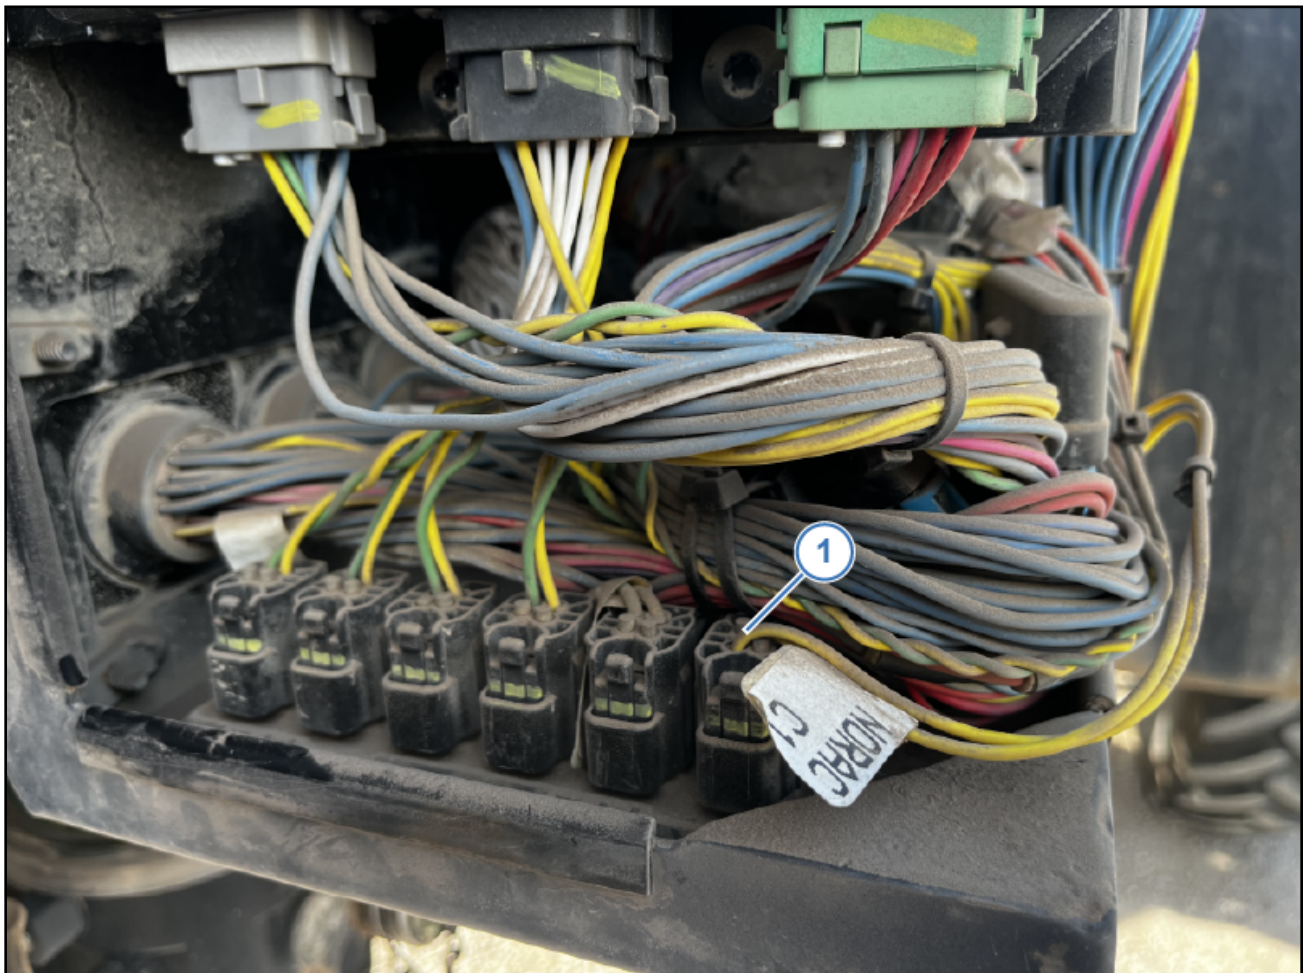

Figure 7: ISO Bus Bar
13. Locate the ISO buss bar at the back of the Controller box. Locate the connector labeled Norac C1 (Figure 7, Item 1).